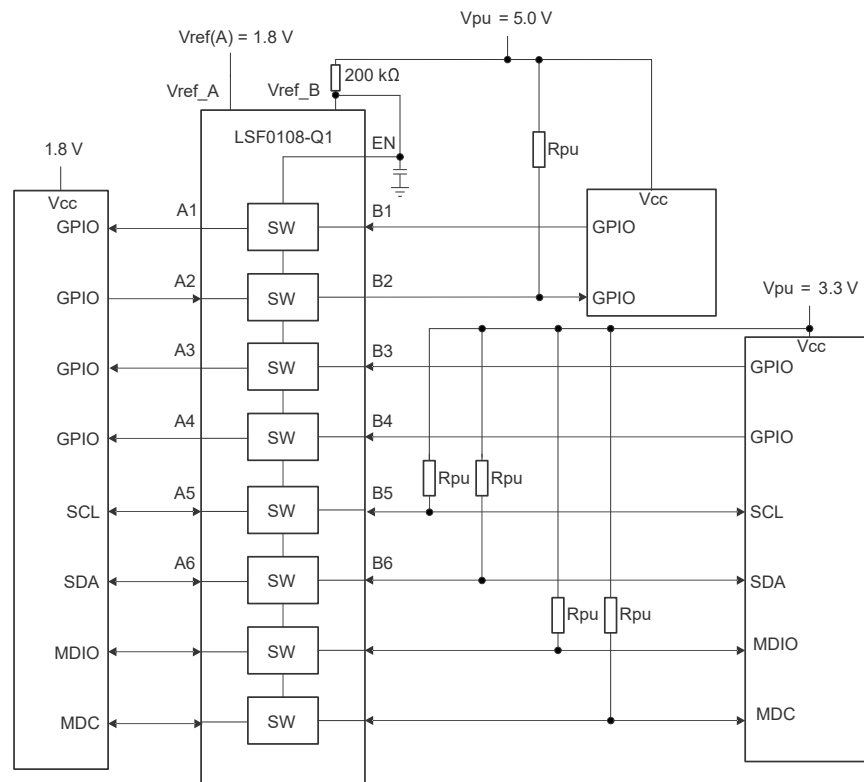

Figure 9-1. Bidirectional Translation to Multiple Voltage Levels
- VCCB/VCCA are not the same as Vref_B or Vref_A: VCCB refers to the B-side supply voltage supplied to the LSF device, while Vref_B refers to the voltage at the Vref_B pin (pin 7 of Figure 9-1) on the other side of the 200 kΩ resistor
As shown in Figure 9-1, the A1 and A2 channels have a maximum output voltage equal to Vref_A, and the B1 and B2 channels have a maximum output voltage equal to Vpu when Vref_B is connected through a 200-kΩ resistor to a 3.3-V Vpu power supply and Vref_A is set 1.8 V.
Figure 9-1 shows how the reference supply voltage (Vref_A) is connected to the processor core power supply voltage. When Vref_B is connected through a 200 kΩ resistor to a 3.3 V Vpu power supply, and Vref_A is set 1 V. The output of A3 and B4 has a maximum output voltage equal to Vref_A, and the bidirectional interface (Ch1/2, MDIO) has a maximum output voltage equal to Vpu.